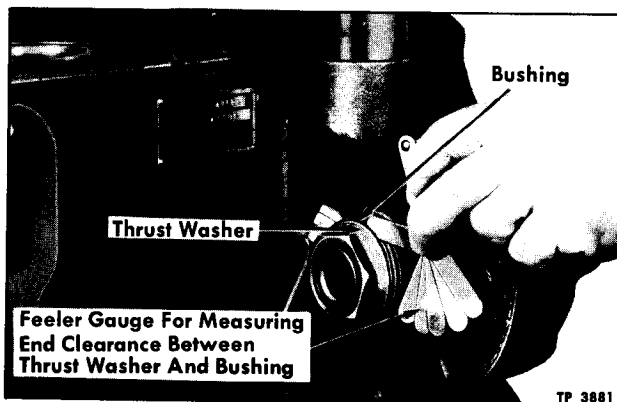

Figure 55—Checking End Clearance of Blower Drive Gear
6. Before loosening lock nut on gear hub, check end clearance between gear hub bushing and thrust washer (fig. 55). If end clearance is excessive, this
1. Coat outside diameter of drive gear hub (13) with engine oil, then slide hub into support (10) from rear.
2. Install locking ball (14) into gear hub then install thrust washer (5) in place over ball, with large diameter flat face of washer next to thrust face of bushing.
3. Prevent hub turning by inserting bolts into two holes in hub; then holding with a bar. Install a new lock washer (4) next to thrust washer, and tighten lock nut until clearance (fig. 55) between thrust washer and bearing flange is as given in **SPECIFICATIONS** section of this manual. Bend the ears of lock washer against flats on nut to prevent nut loosening.
4. Tap blower drive gear (15) onto hub. Flat finished face of gear must be away from bearing
5. Apply engine oil at each thrust shoulder of bushing, and again check end clearance between bushing and thrust washer (fig. 55).